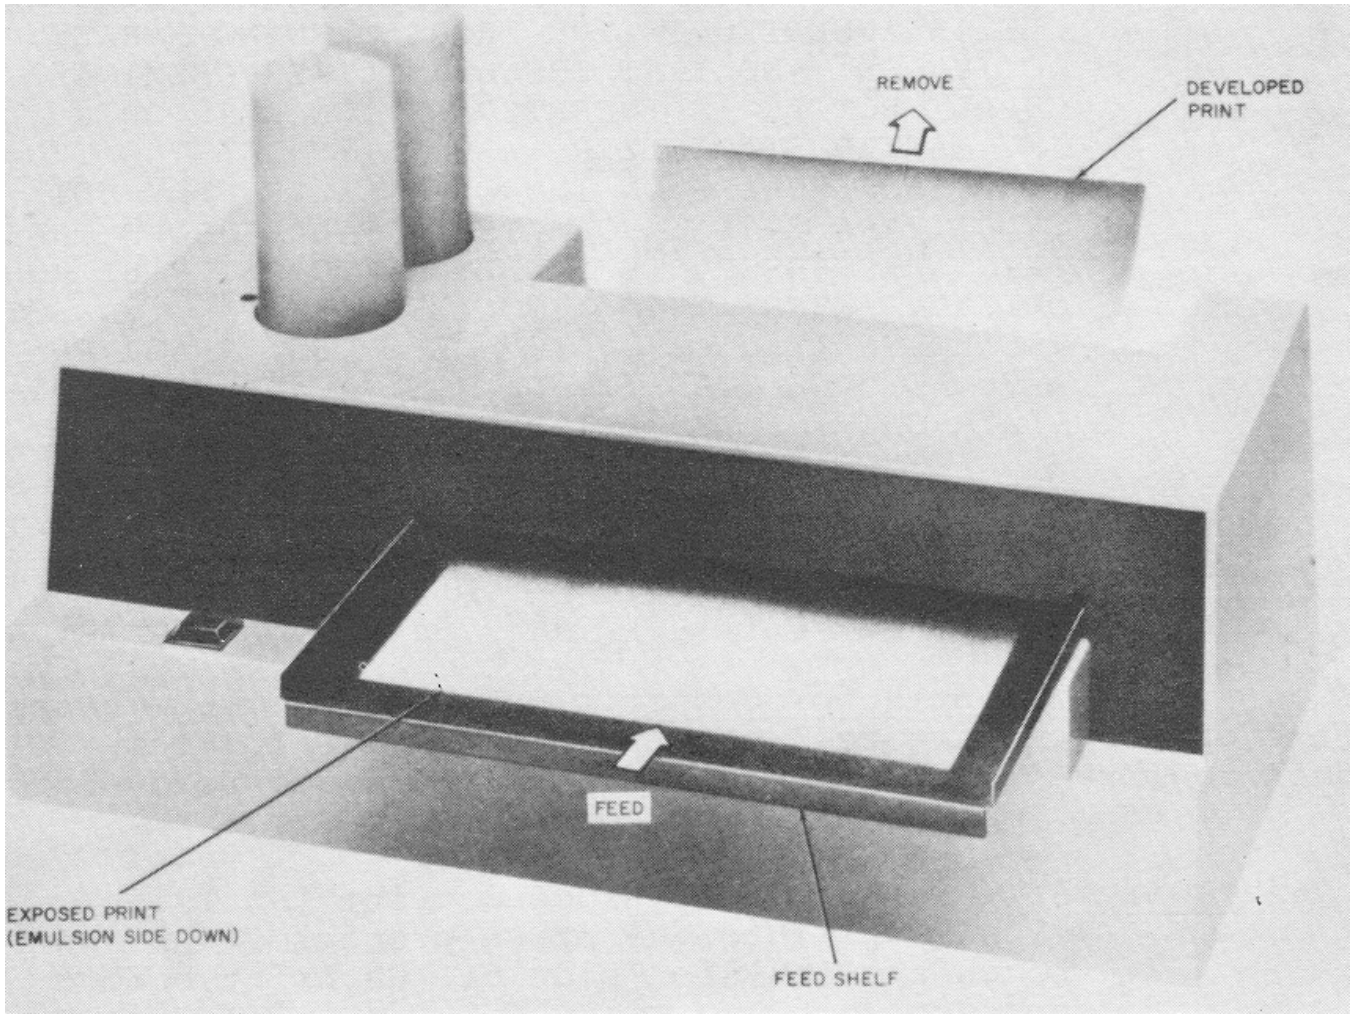

FIGURE 3-15. Feeding and removal of prints from print processor.
b. Developing exposed stabilization type paper. Place the exposed print to be developed (emulsion side down) on the feed shelf, and feed the print into the print processor as shown in figure 3-15. Always feed the exposed print into the
c. Removal of developed prints from print processor. As the developed print emerges from the print processor (figure 3-15), grasp the lead edge of the print and apply slight tension to be certain the trail edge is pulled free